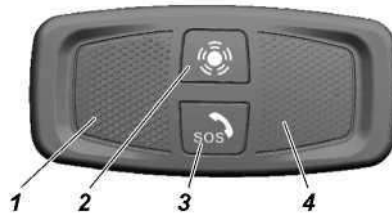

Fig. 3.6 User interface unit:
- User interface unit (UIU) with the "SOS" button 3 (Fig. 3.6) located on the inner part of the passenger compartment roof;
The indicator of the device is combined by design with the emergency call button "SOS" 3 (Fig. 3.6) and its indication is shown in Table 3.1 depending on the operation modes of the emergency services call device.